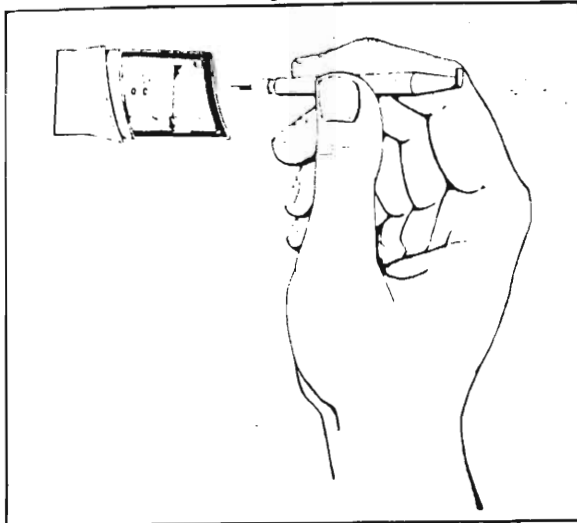

Figure 3
2. Remove the pushbutton lens. Place the hollow end of the bulb extractor tool over the bulb to be replaced and gently pull back. The bulb should stick in the extractor and come out of its socket as the extractor is pulled back as shown in Figure 3.